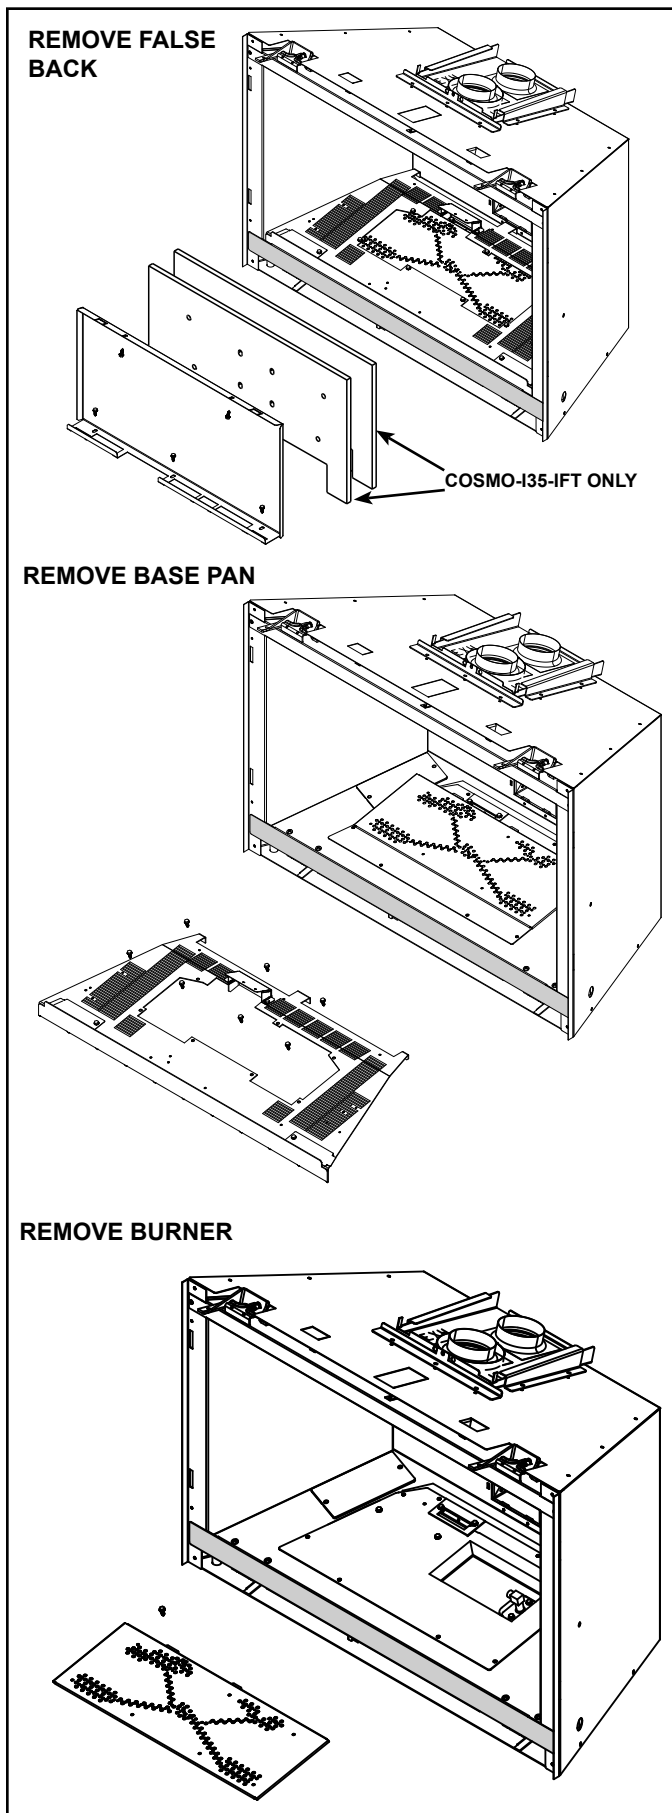

Figure 8 COSMO-IFT Details
**For COSMO-I30-IFT, COSMO-I-35-IFT details reference Figure 8.**
**For COSMO-I30-IFT, COSMO-I35-IFT details reference Figure 8.**